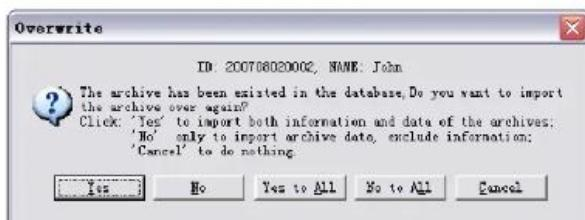

Fig.5-40 Import archive-wheter to overwrite
2. If current case data base has contained the case to import, a dialogue box as Fig.5-40 pops up: